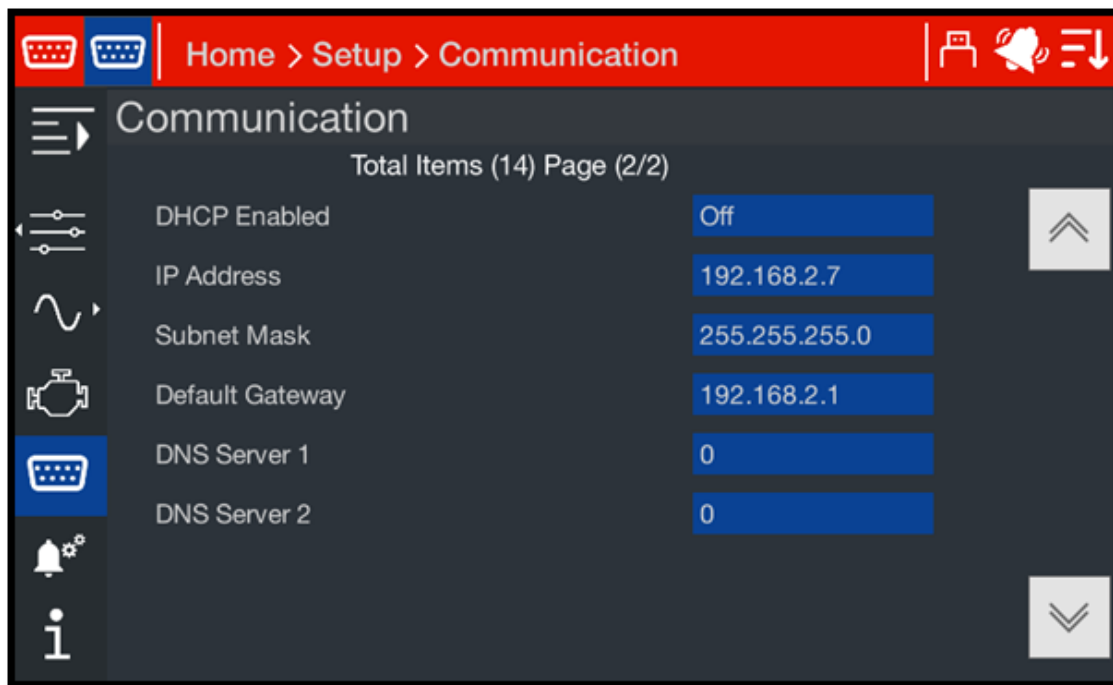

Figure 35 APM603 UI Screen for IP settings
3. The settings can be verified on the APM603 UI screen shown in Figure 35. Go to Setup>Communication to check the settings. If the settings are different than the default settings shown here, then BACnet will initialize with those settings.